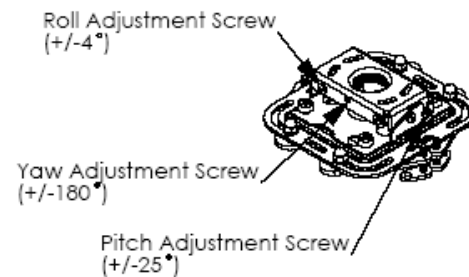

Figure 8. Pitch, Roll, and Yaw Adjustment
1. Loosen the pitch adjustment screw on each side of the Universal Ceiling Projector Mount (see Figure 8).
1. Loosen the roll adjustment screw on the face and back opposite the pitch clamp (see Figure 8).
1. Loosen the set screw (see Figure 8).